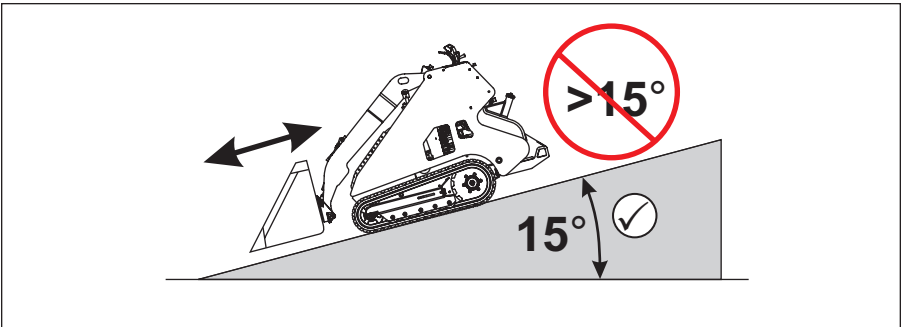

Figure 3-24 Uphill/Downhill Travel
**NOTE:** When the machine has no attachment or load, the heavy end is the operator's platform end of the machine. See **Figure 3-24**.